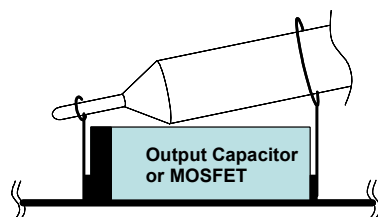

Figure 2. Proper Probe Setup to Measure Output Ripple and Phase Node Ringing
5. Use an oscilloscope to observe output voltage ripple and phase node ringing. For accurate measurement, see Figure 2 for the proper test setup.